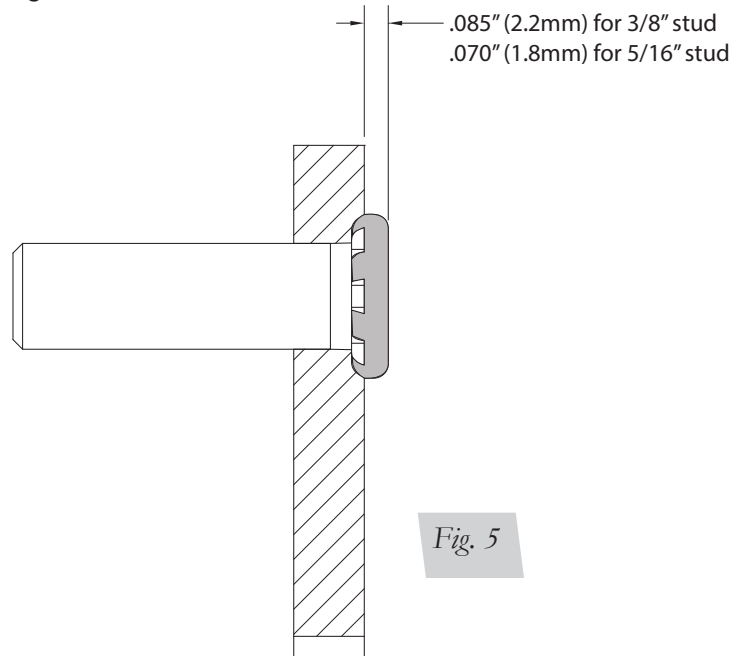

Fig. 5
- Using the stock upper mount as a bolt template, apply this pattern to the flat round bracket provided (E). Measure the bolt diameter needed. This kit provides either 5/16" or 3/8" press-in studs. These studs (G or H) are required because of "head clearance" to the air spring. Other bolts may cause rubbing of the bracket to the air spring, causing noise and reducing product life. Depending on the bolt size, drill either 5/16" (8mm) or 3/8" (9.5mm) holes on the bolt pattern. Using a press, support closely around the hole to prevent deflecting of the bracket surface during the press operation. To install the studs, press against the stud head until the "teeth" are flush with the bracket. Refer to image below in Figure 5.